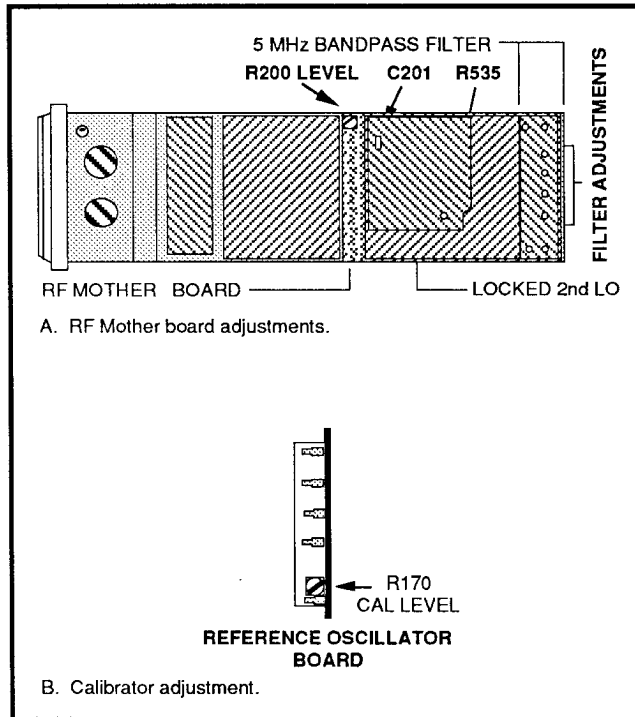
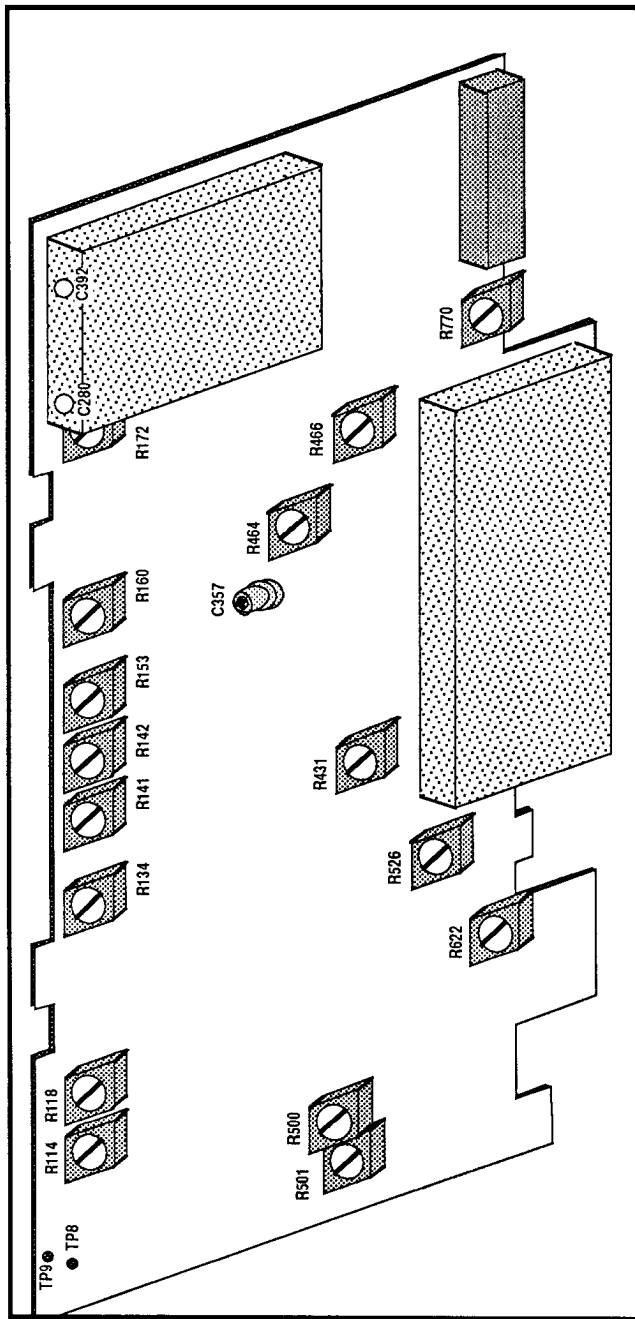

Figure 4-4. Locked 2nd LO and 5 MHz Bandpass Filter adjustments.
Figure 4-6. Log board adjustment and test point locations.
- Adjust C201 (Figure 4-4) until the oscillator locks. (The calibrator signal comes on screen.) Note the voltage reading on the meter. Adjust C201 for a tune voltage of 8.5 to 9.5 V.
f. Starting with the capacitor towards the top of the instrument, adjust the four capacitors for highest amplitude, best filter shape of the 5 MHz pass band (4 to 6 MHz), and centering. See Figure 4-4 for the locations of the four capacitors on the RF Mother board. If necessary, adjust the C280 and C392 (Figure 4-6) on the Log board for amplitude and filter shape.
Refer to Figure 4-6 for all adjustment locations on the Log board.